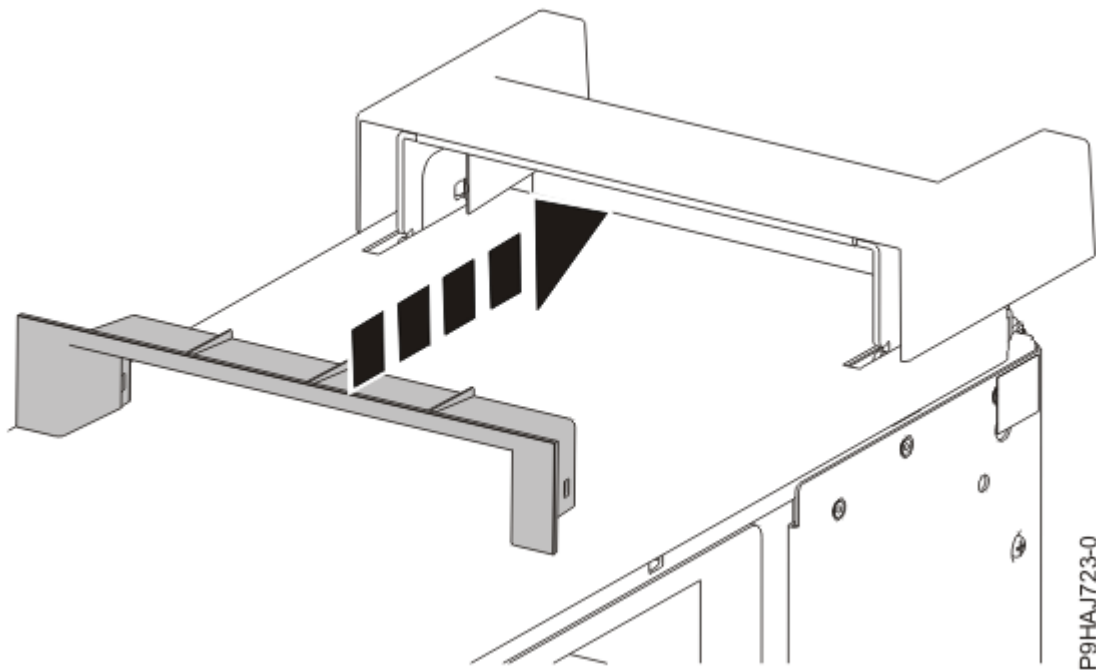

Figure 21. Inserting the plastic piece within the handle cover
5. Insert the plastic piece within the handle cover by pushing it firmly into the handle cover as shown in Figure 21 on page 36.